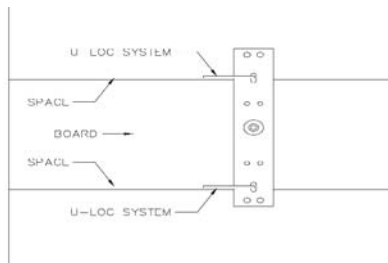

Figure 3A
**Step 5:** Install the Deck-Loc Anchor by placing (2) "U-Locs" through the oblong holes and into the spaces between the deck boards (see Fig. 3A)